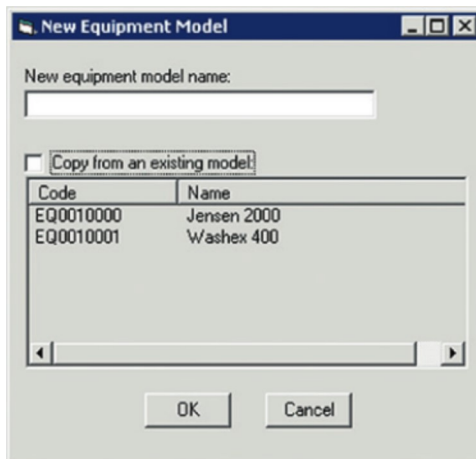

Figure 29. New Equipment Model dialog.
3. Enter a name for the new equipment model (see Figure 29).